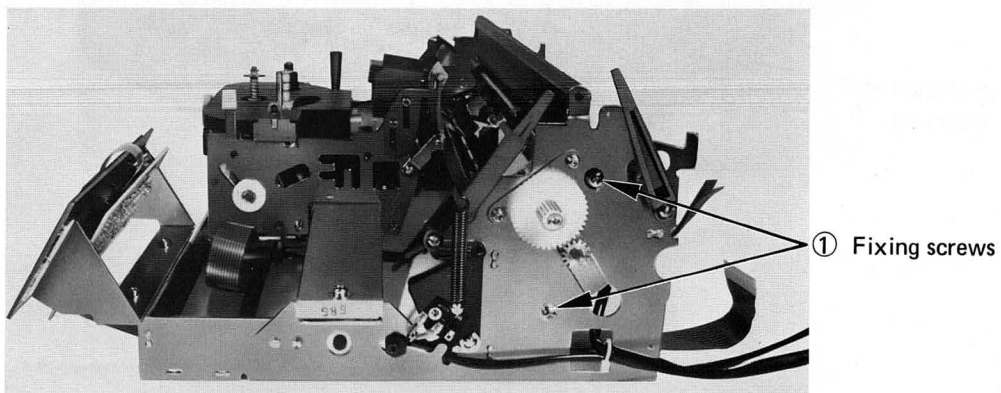

Fig. 5.37
Step 2. Remove two motor fixing screws ① to release the line feed motor unit. (Fig. 5.37)